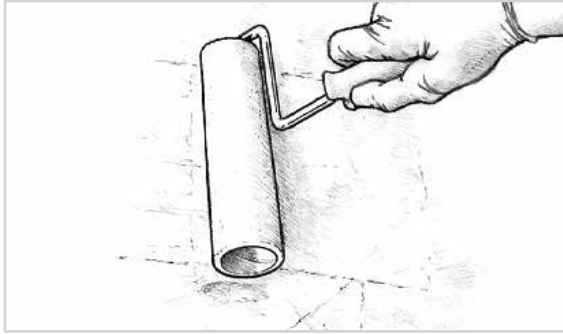

Figure 16-23 Apply the epoxy in thin even coats using a thin foam roller.
4. Roll lightly and randomly over an area approximately 2'x2' (60 cm x60 cm) to transfer the epoxy evenly over the area (Figure 16-23).